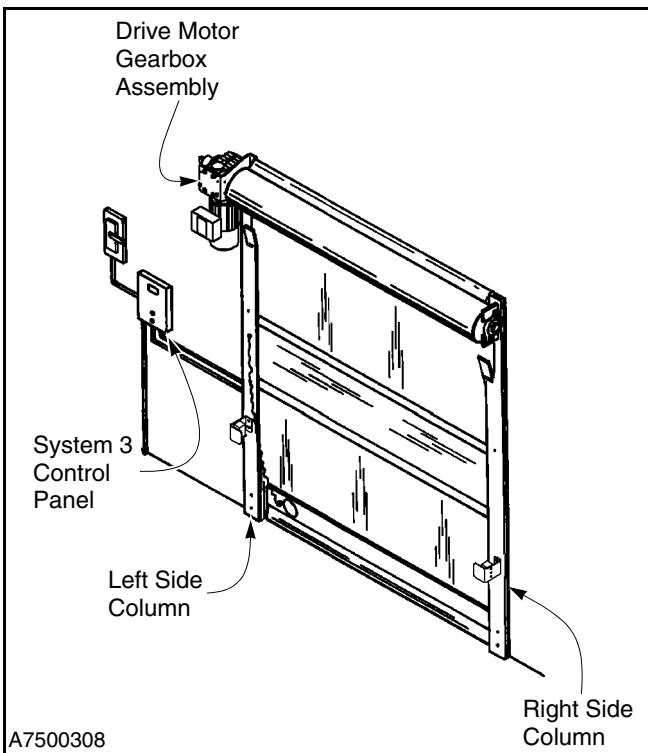

Figure 40
3. To ensure that the correct parts are shipped, please include the serial number of your door with the order. The serial number is located inside one of the side columns, on the drive motor gearbox or inside the door of the System 3 Control Panel. (See Figure 40.)